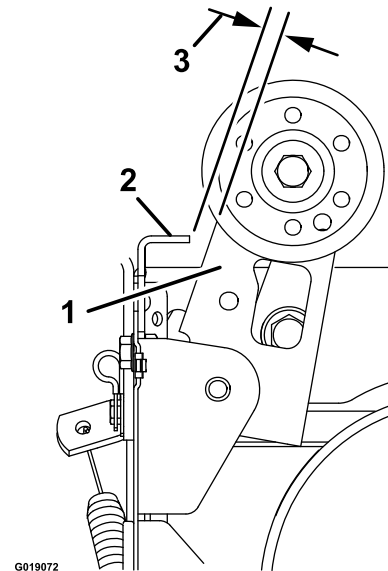

Figure 16
- Adjust the turnbuckle until the gap between the broom clutch assembly and the tab is 3.2 mm (1/8 inch) (Figure 16).